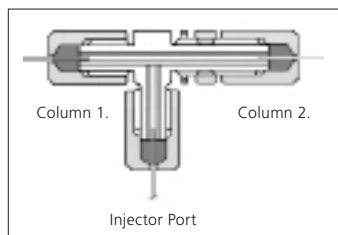

Figure 3.
3. The fused silica retention gap connection is made by inserting the column front into the side arm and carefully threading the connecting nut (SSNE/16-012) onto the VSIS-5 tee. The end of the fused silica should terminate 1-2 mm beyond the face of the ferrule. Finger tighten the nut, then tighten a further 1/4 of a turn with a 1/4" AF spanner. (Refer Figure 3).
4. The first column connection is made in the same way as described in (3) above, to one cross arm of the VSIS-5 tee.
5. The second column connection is made to the other cross arm of the VSIS-5 tee as described in (3) above.